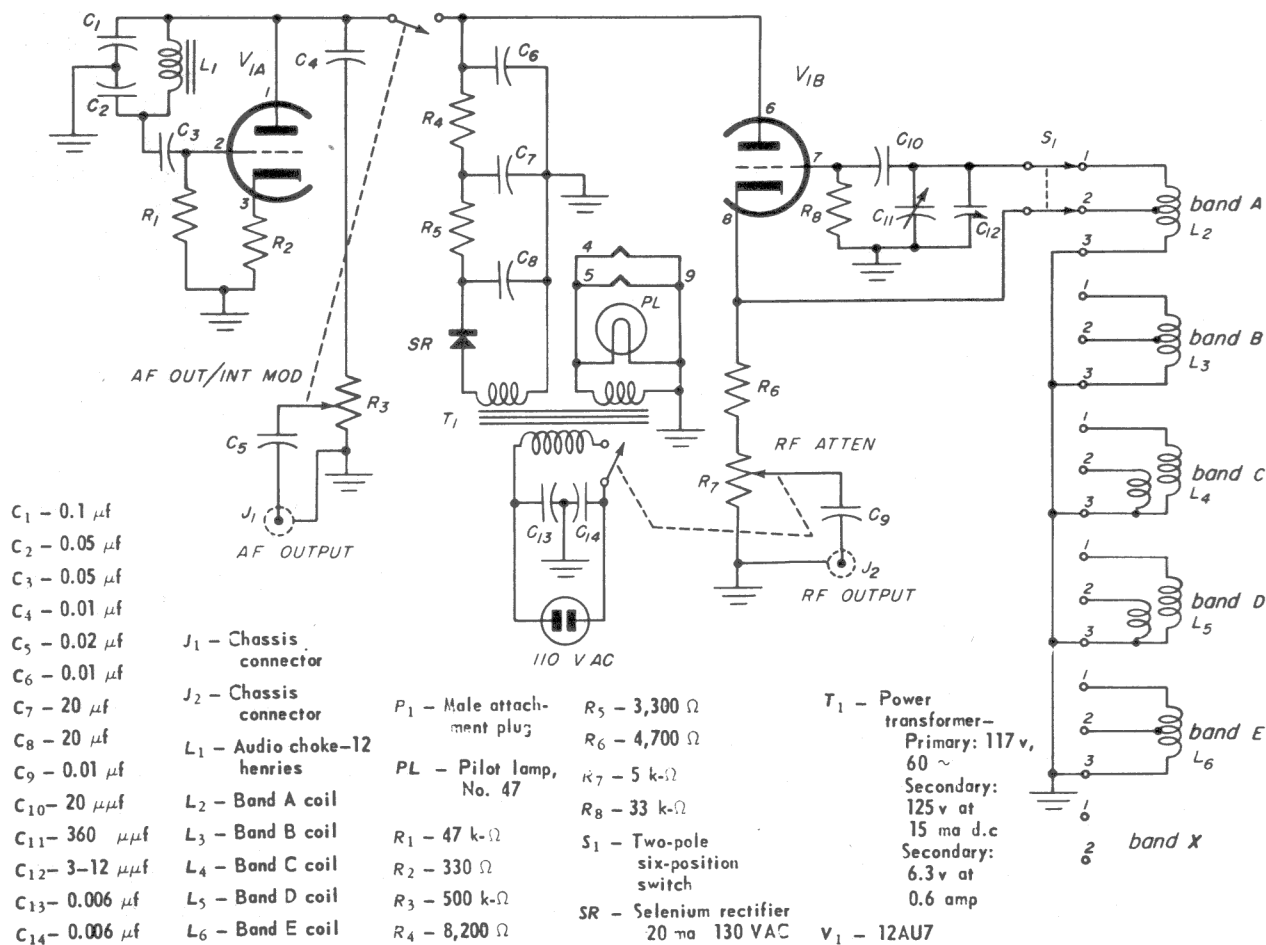

Fig. 21-21
Step 4. After you have checked your signal generator, insert the 3/8-inch snap-in plug into the access hole. Your signal generator is now completed. The schematic of your signal generator (Fig. 21-21) will be helpful in future troubleshooting.